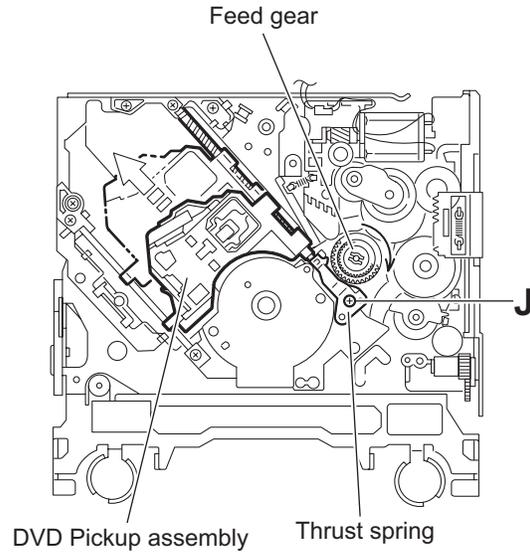

Fig.17
3.2.9 Removing the DVD pickup assembly (See Fig.17 to 19)
- (1) From the bottom of the body, turn the feed gear in the direction of the arrow to move the DVD pickup outwards. (See Fig.17.)
- (2) Remove the screw **J** attaching the thrust spring. (See Fig.17.)